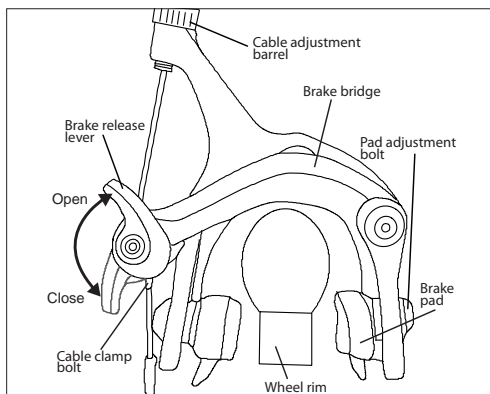

Fig. 19: Caliper brake release lever.
- The caliper brake release lever (Fig.19). Not on all models.
- Caliper brake (Fig. 19)
Caliper Brakes (Fig. 19):
Once the wheel is installed, caliper brakes are engaged by moving the brake release lever to the “close” position (see Fig. 19). To release a caliper brake, move the brake release lever into the “open” position. Be sure to squeeze the brake levers to ensure that the brakes are secured in place and functioning properly before riding. For caliper brake adjustment, see “Brakes” on page 35. Before riding, always check to make sure the brake release lever is in the closed position.
- For caliper equipped bikes, see Fig. 19.